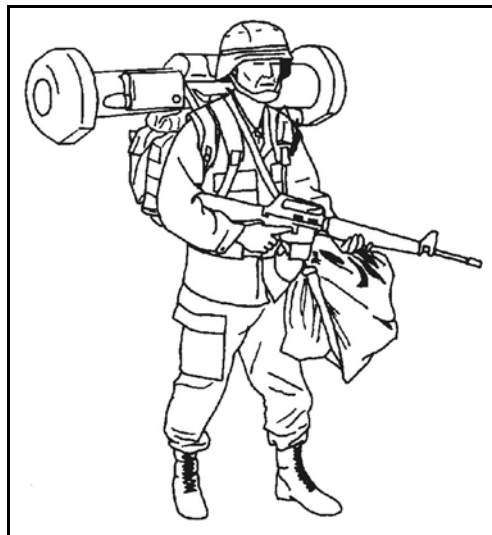

Figure 2-41. Long-distance carry technique.
c. **Long-Distance Carry.** The long-distance carry technique is used when contact is not likely (Figure 2-41).